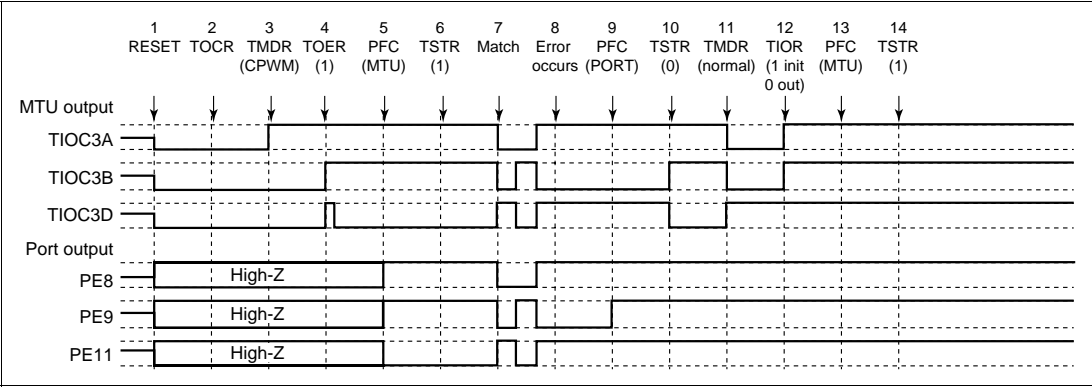

Figure 12.121 Error Occurrence in Reset-Synchronous PWM Mode, Recovery in Normal Mode
(25) Operation when Error Occurs during Reset-Synchronous PWM Mode Operation, and Operation is Restarted in Normal Mode: Figure 12.121 shows an explanatory diagram of the case where an error occurs in reset-synchronous PWM mode and operation is restarted in normal mode after re-setting.
- 1 to 10 are the same as in figure 12.121.